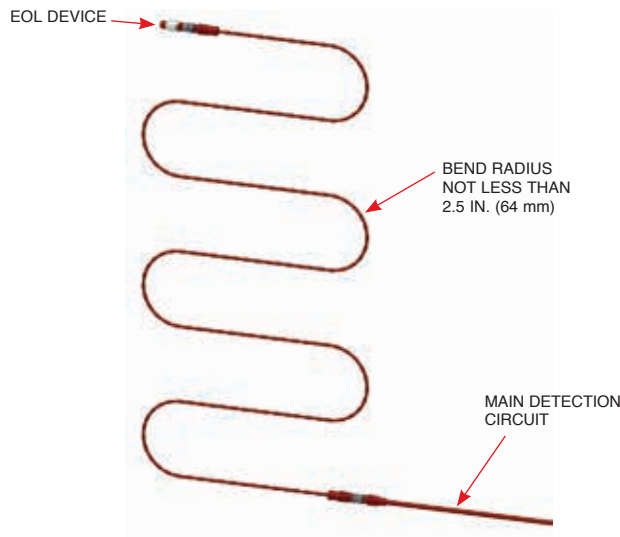

FIGURE 5-16
The minimum bend radius for Linear Detector must not be less than 2 1/2 in. (64 mm) (see Figure 5-16, page 5-7). Adjust slack to avoid droops in cable. Allow appropriate slack through areas that are intended to move under normal vehicle operation.
- Install an EOL Device (Part No. 439396) at end of the Linear Detector, if last device, to complete the circuit. See Figure 5-16.